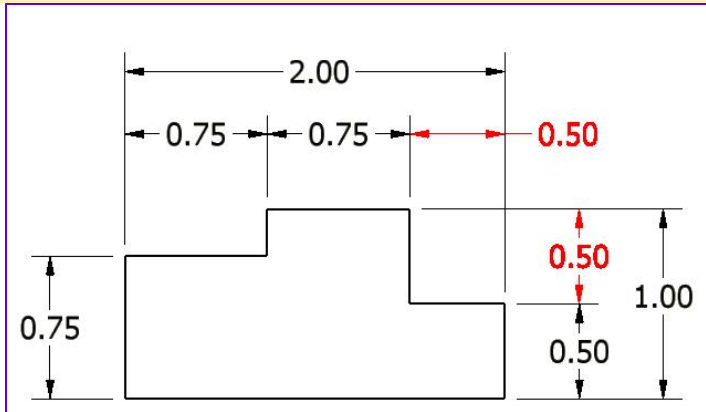

Fig 6
2. Each dimension should be given only once. No dimension should be redundant / superfluous (repeated) (fig 6). Not even on another view (fig 7) or by different ways.